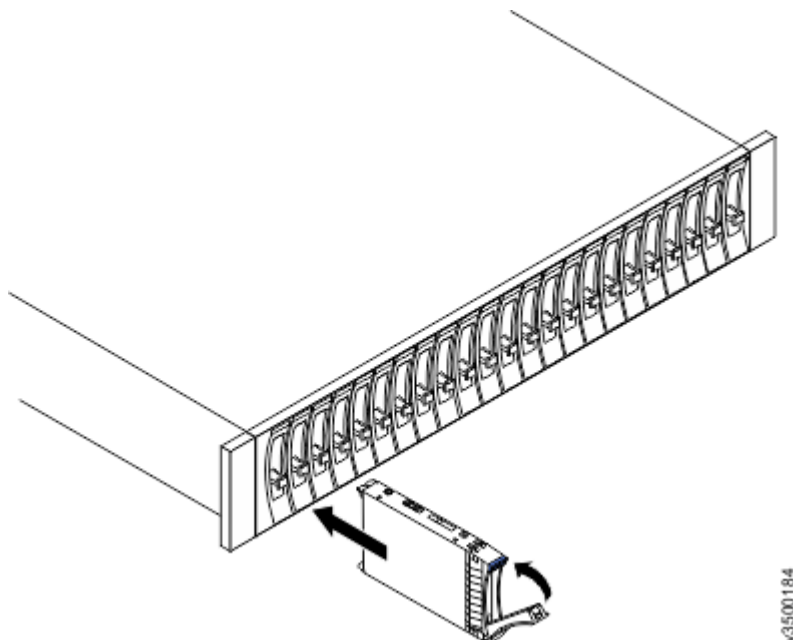

Figure 78. Installing and locking a 2.5-inch drive into its slot
13. Align the drive assembly with the guide rails in the bay (see Figure 78 on page 141).